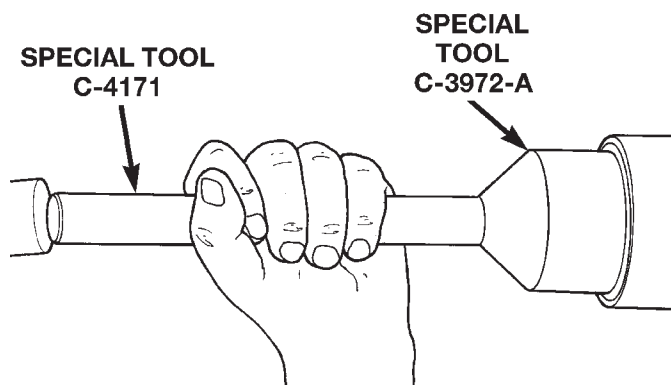

Fig. 8 Pinion Seal Installation
(1) Apply a light coating of gear lubricant on the lip of pinion seal. Install seal with Installer C-3972-A and Handle C-4171 (Fig. 8).